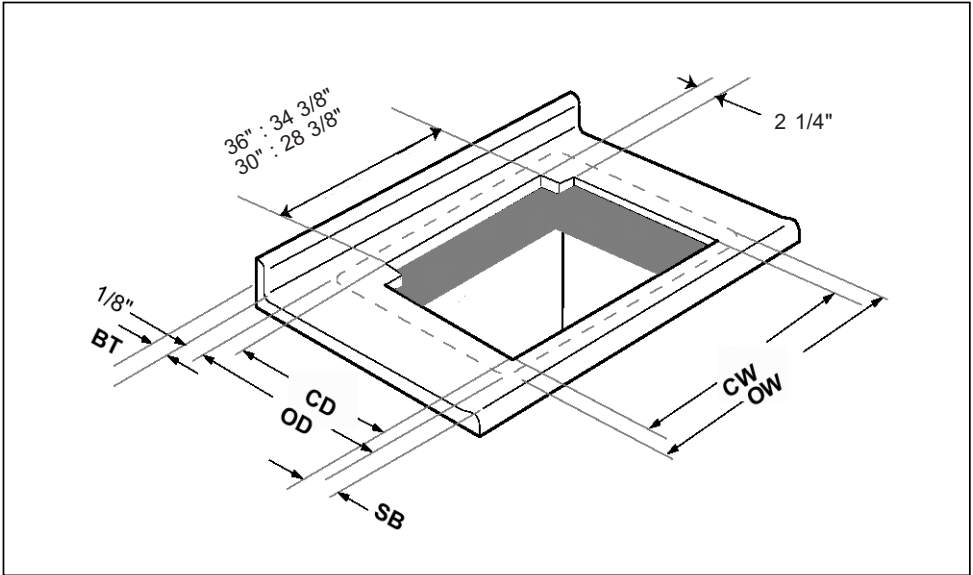

Fig. 7
For installation with a Bosch cooktop, refer to Part A and Figure 7 (Page 12).
A. For installation with a cooktop (Figure 7 and Table 2)